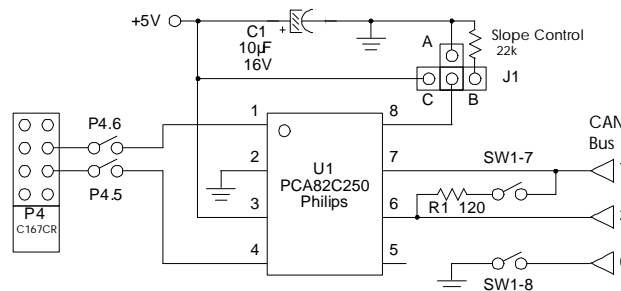
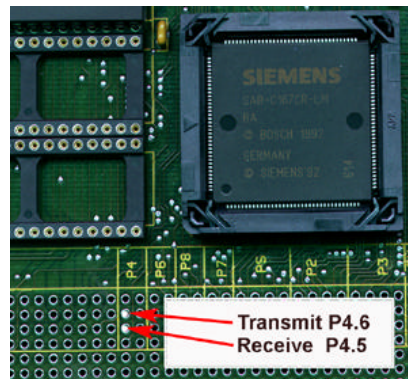
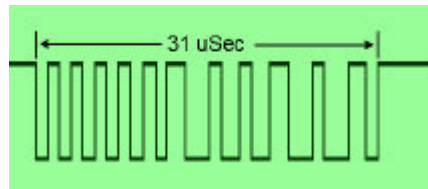

FIGURE 2
FIGURE 6
FIGURE 7
The Keil MCB167 does not come with the physical layer circuitry to connect directly to the CAN bus. This layer is easily provided with a Philips 82C250 driver chip. A schematic is provided below as Figure 2. Wire wrap this circuit on the prototyping area of the MCB167. The location of P4.6 and P4.5 on the MCB167 is illustrated in Figure 6.
If you are using two PCs; double-click on the μ Vision icon on the second PC to start the user interface. After you invoke μ Vision, the window shown in Figure 2 appears as before with A. Everything is pre-configured for you for this project.
- 2) Measure P4.6 (transmit) with an oscilloscope. Figure 6 illustrates the position of these points. You should see a digital data signal of 4.5 volts p-p as shown in Figure 7.
- 5) Check the physical CAN signals on Pins 6 and 7 of the 82C250. Each signal will be about 1.5 and 2 volts p-p respectively. Remember these outputs/inputs are a differential pair, so in order to see the true waveform, you will need to use a two channel scope set to ADD with one channel inverted from the other. This will give the same signal as Figure 6 but at about 2 volts p-p.